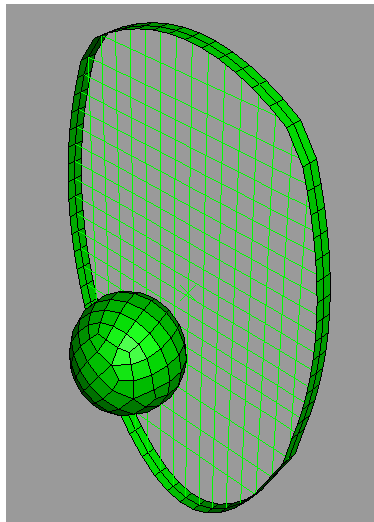

Figure W-32 Deformed model shape.
2. In the toolbox, click  (or select **Plot**→**Deformed Shape** from the main menu bar) to view a deformed model shape plot, as shown in Figure W-32.